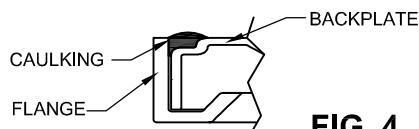

FIG. 4
- For wet location, see FIG. 4
CAUTION: For wet locations, in accordance with Underwriters Laboratories requirements, a line of caulking compound such as acrylic latex or silicone must be placed around the perimeter of backplate also contacting the flange (as shown) to seal against mounting surface keeping water away from the outlet box and back openings. Fig. 4